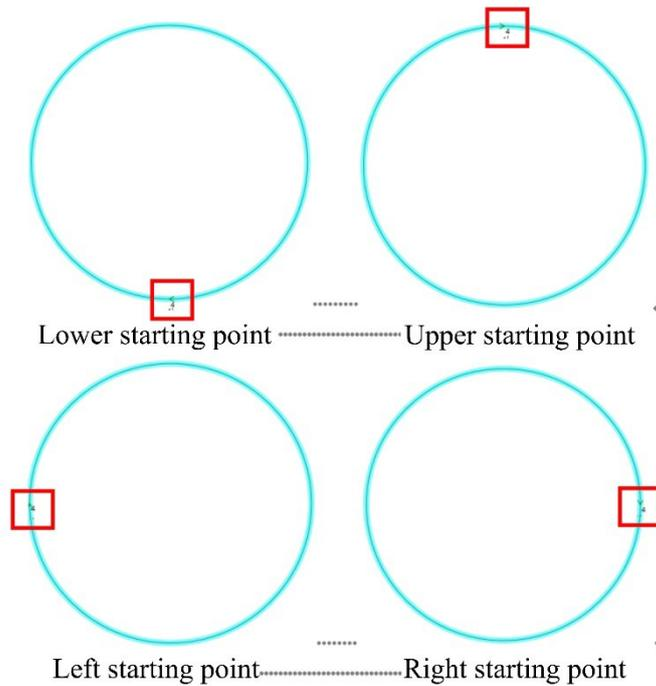

Fig. 5.3.4d Schematic Diagram of Four-way Sewing start Point Operation
③ Take the circle in the figure below as an example and click the upper start point, lower start point, left start point, and right start point buttons respectively, as shown in Fig. 5.3.4d.